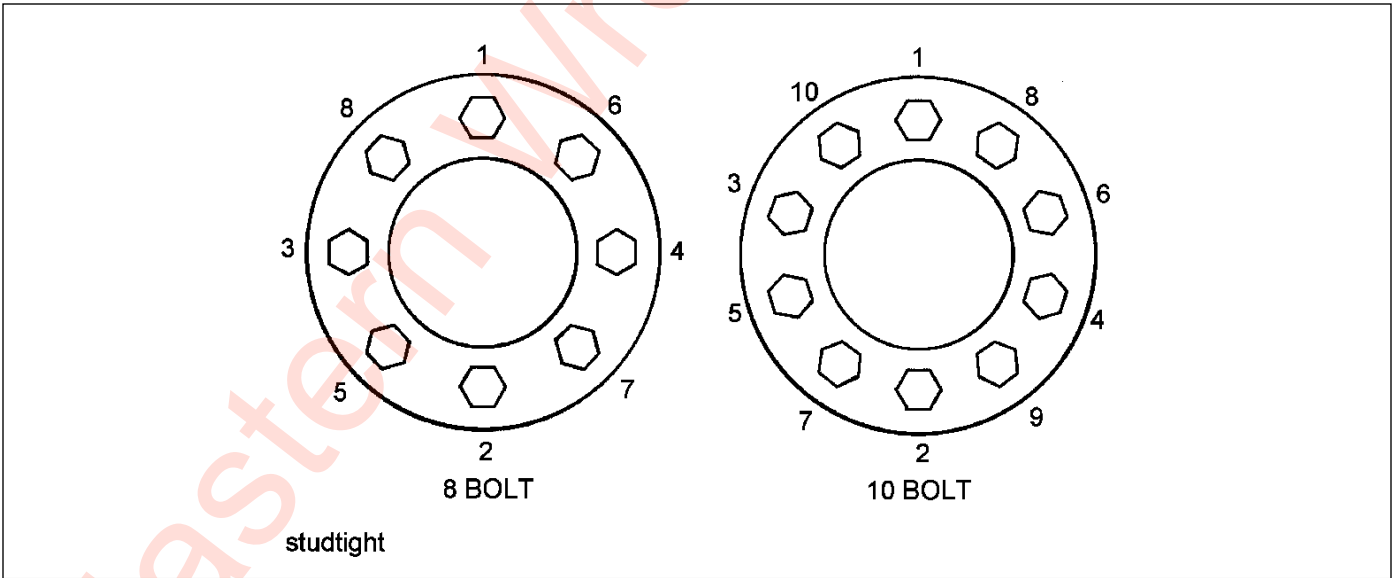

Figure 4-17: Stud Tightening Sequence
3. Install the inner capnuts on the studs and tighten to fifty foot-pounds using the sequence illustrated in **Figure 4-17**. Make certain that the left-handed threads are installed on the driver side of the vehicle and the right-handed threads are installed on the curbside of the vehicle.
4. Tighten the inner capnuts to full torque of 450 to 500 foot-pounds using the sequence shown in **Figure 4-17**.
6. Install the outer capnuts and tighten to 50 foot-pounds using the sequence in **Figure 4-17**. Then tighten to full torque of 450 to 500 foot-pounds using the same sequence.
Improper tightening sequence	Follow proper tightening sequence (See Figure 4-17.)